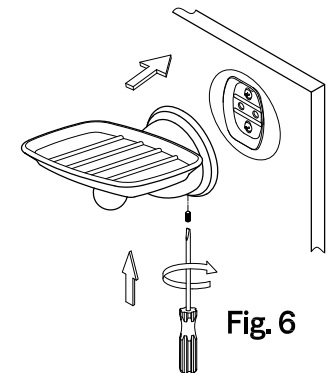

Fig. 6
- Step 5. Place the unit, with the small hole in the base underneath, over the mounting plate by tightening the slotted set screw with a flathead screwdriver until the base is tightly fixed (Fig 6).